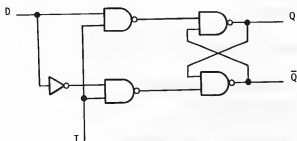

Figure 5-63
17. What type of flip-flop is shown in Figure 5-63?
18. In the circuit of Figure 5-63, if the T input is high and a 3 MHz signal is applied to the D input. What is the output?
17. B — A D-type flip-flop is shown in Figure 5-63.